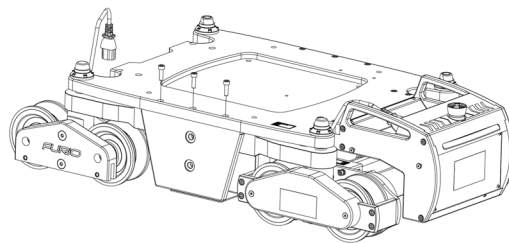

Figure 13 Three Screws that Secure the Side Plate
1. Secure one of the side plates to the BPS assembly using a 4 mm hexagonal wrench and two of the M6 screws provided in the BPS Kit per side cover plate (four total). This plate should be attached to the side that is opposite to the bar code reader. Refer to **Figure 13**.